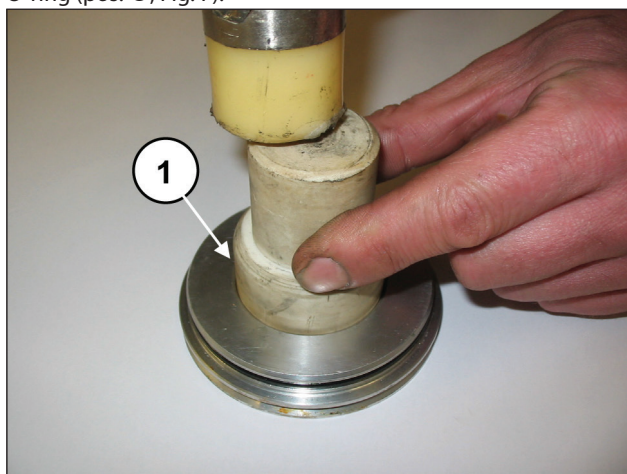
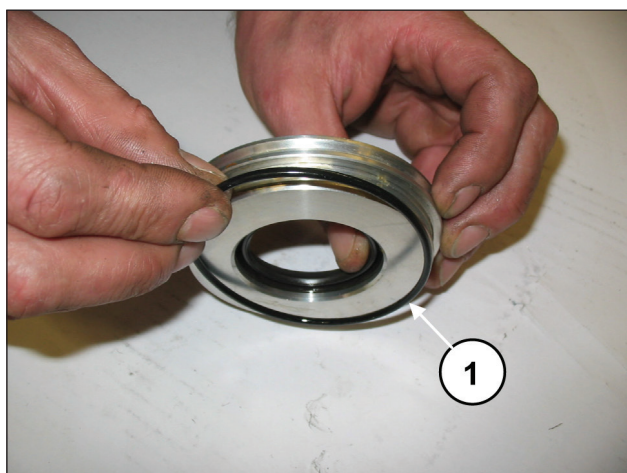

Fig. 6
Fig. 7
Remove the radial seal ring (pos. ①, Fig. 6) and the external O-ring (pos. ①, Fig. 7).